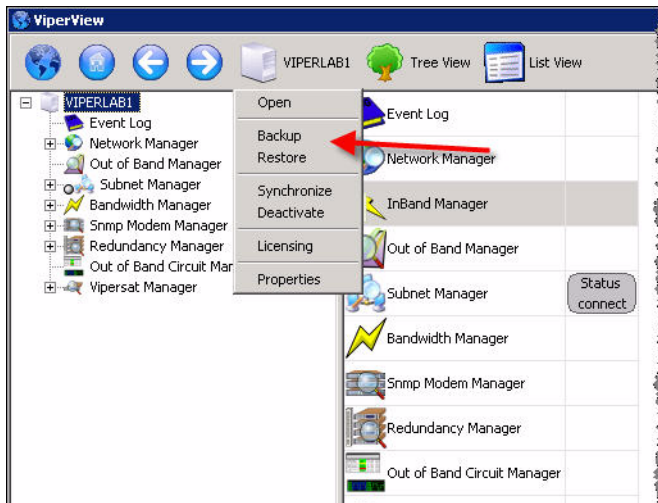

Figure 2-6 Backup Command, VMS Server
1. Right-click on the VMS Server icon and select **Backup** from the drop-down menu (figure 2-6).